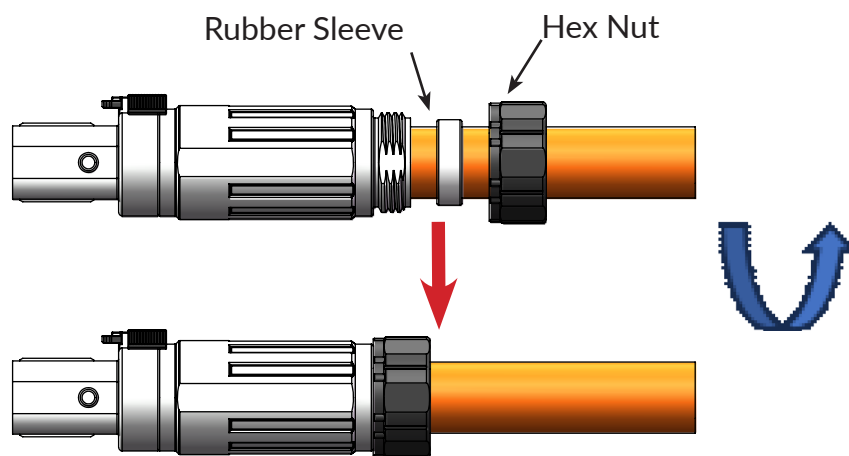

Figure 13
3) As figure 13 shown, tighten the hex nut to adapter shell with 33mm spanner, recommended torque is 4~6N.m, rubber sleeve applicable range see table 8;